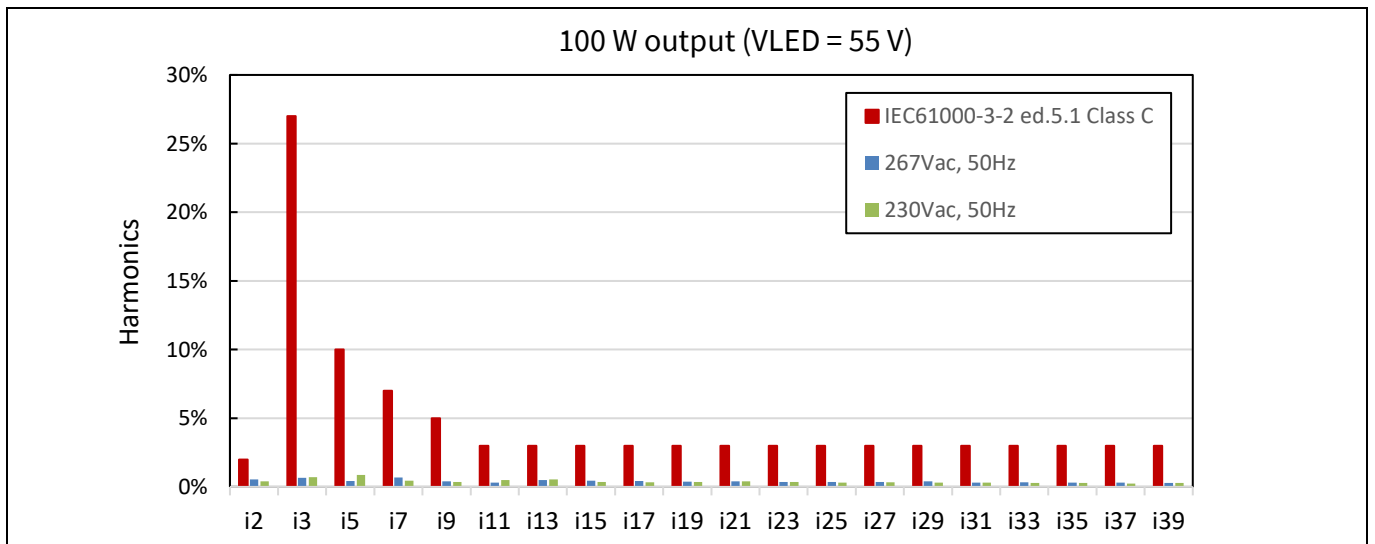
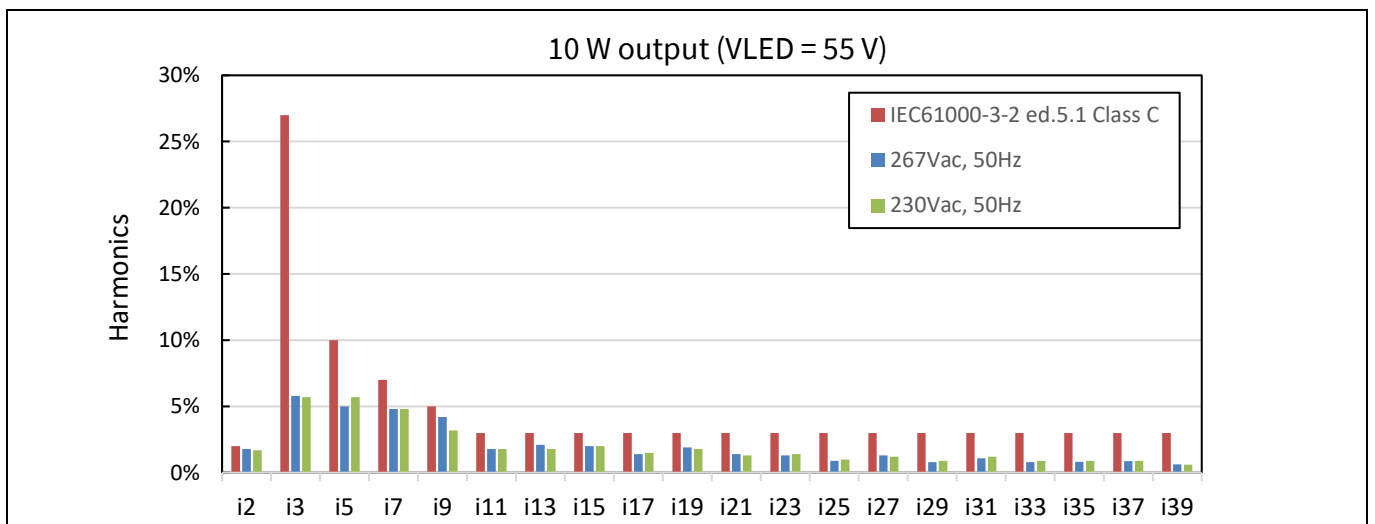

Figure 14 Input current harmonics at 100 W load
Figure 15 Input current harmonics at 10 W load
**Figure 14** and **Figure 15** give the input current harmonics results at full load and 10 W load. Both fulfill the requirement of IEC61000-3-2 class C, edition 5.1. Here the input of 120 VRMS is not shown because this is an easier case to pass the harmonics requirement.